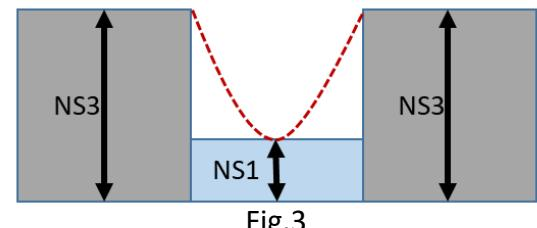

Fig.3
- **U-shape** : shorter NS gets faster by taller neighbor (Fig.3)